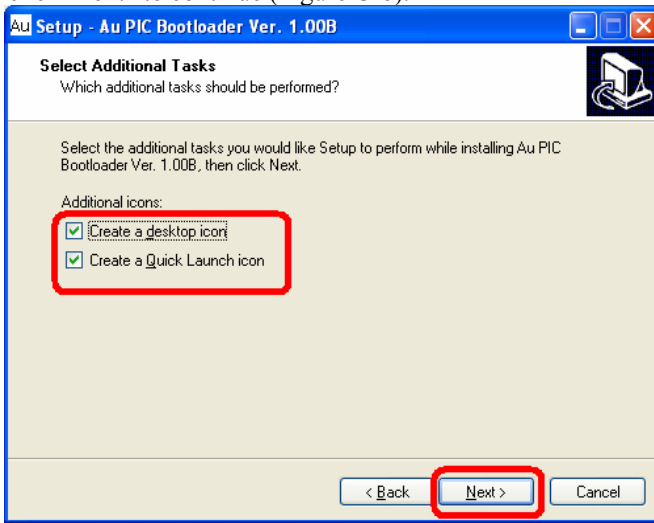

Figure C-6
- “Select Additional Task” window shows up, check both “create a desktop icon” and “Create a quick launch icon”, and then click “next” to continue (Figure C-6).